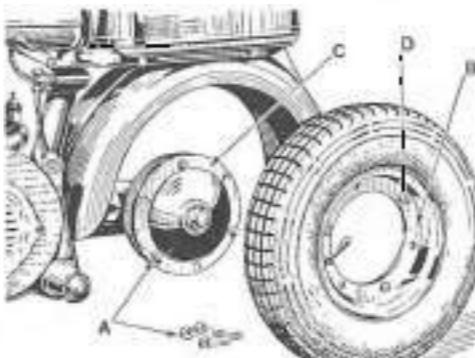
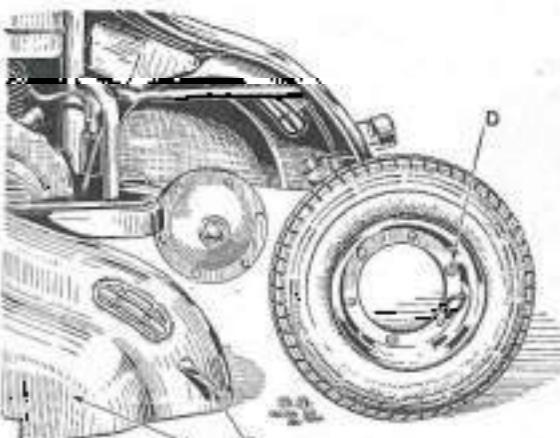

Fig. 8
Fig. 9
To remove the front wheel, on both models (fig. 7) first disconnect the brake control cable (A), then loosen the two cap nuts (B) fastening the wheel to the trailing links (C); place the washers under the nuts, located within the trailing links. To dismantle the rear wheel on the model d (fig. 8) loosen the three cap nuts (A) fixing the rim (B) to the hub (C); before dismantling the wheel on the model fd (fig. 9) remove the left side panel (A) loosening the fastener (B).